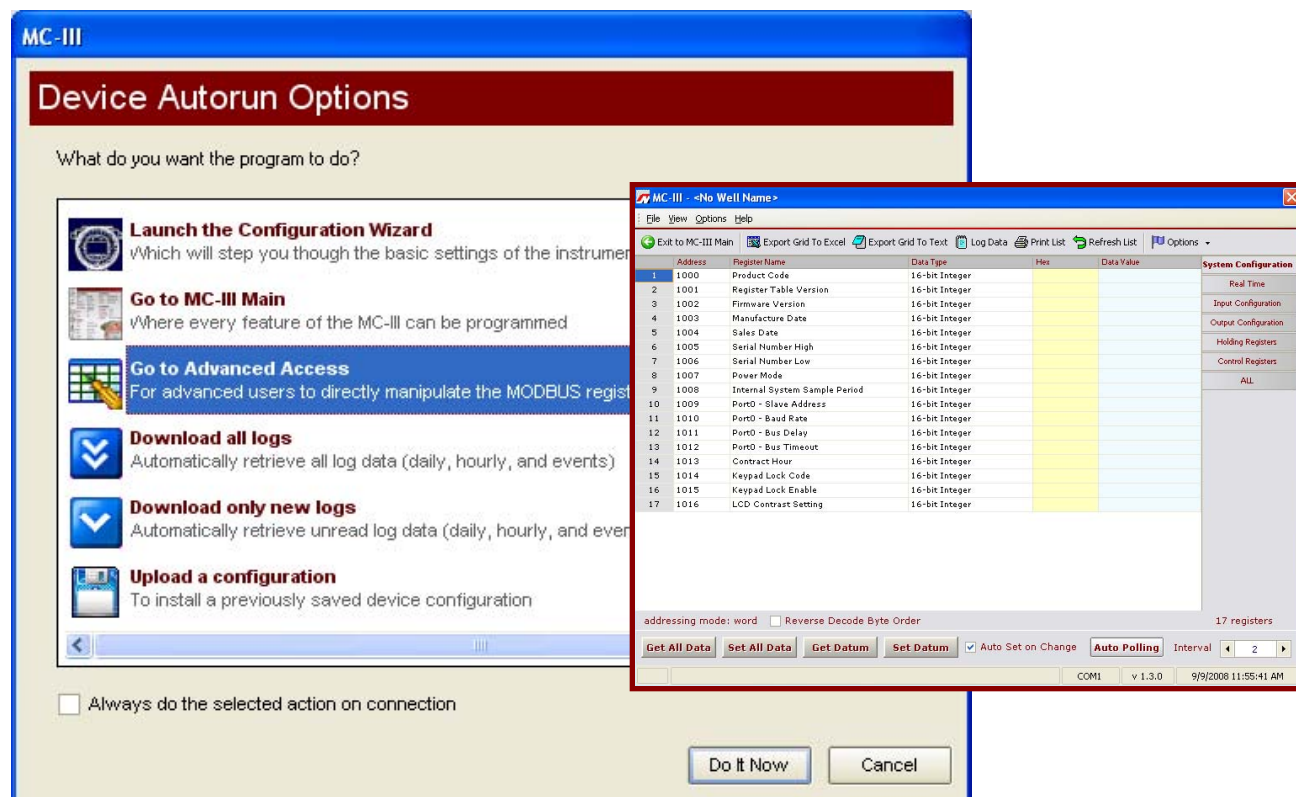

Figure 4.13—Advanced Access configuration option for system configurators and host programmers
- The Advanced screen (Figure 4.13, page 47) provides access to Modbus® registers that can be modified to change configuration parameters (recommended only for system configurators and host programmers).